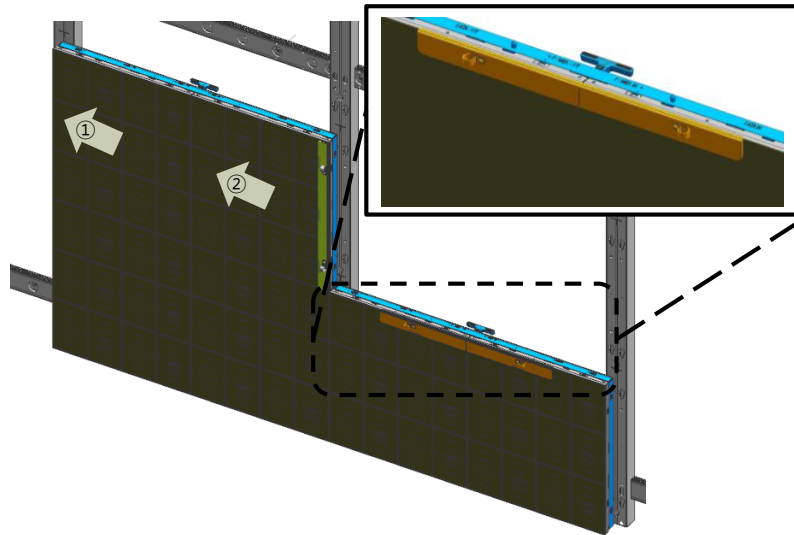
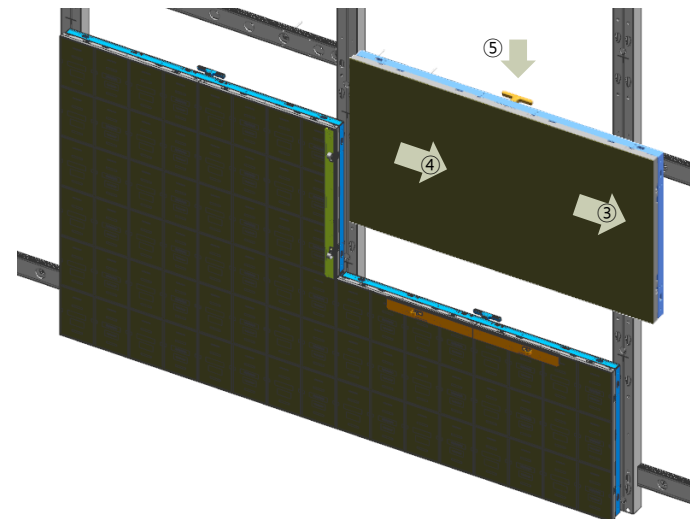

Figure .3 Attaching H / V for Edge Protection during 2nd Stage Installation
Fig.4 Installation of the 2nd cabinet in the 2nd stage
- Push the ① and ② modules to the side.
- Attach the Edge Protection Jig H and the Edge Protection Jig V. (Fig.3)
- Push the module ③ and ④ of the cabinet to be installed in the opposite direction.
- Be careful not to collide with the modules. Slide the cabinet as shown in ⑤. (Fig.4)